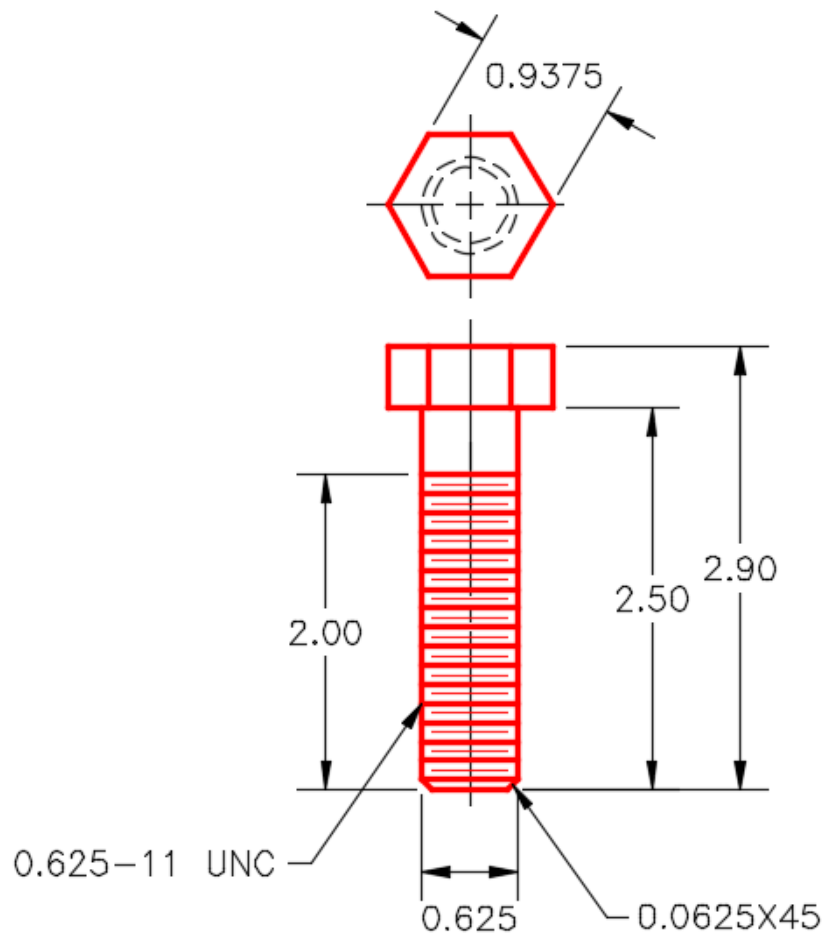
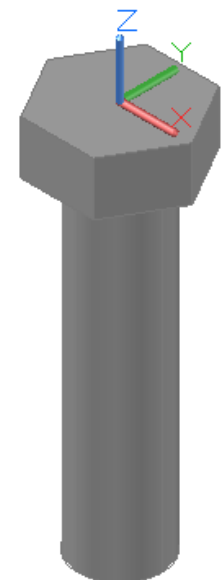

Figure Step 2A
Figure Step 3
Step 2 Save and name the drawing: AutoCAD 3D Workalong 23-3. (Figure Step 2A and 2B)
Step 3 Using what you learned in the last workalong and using Figure Step 2A as a reference, draw the solid model on layer: Solid 8 to match the figure. Ensure that you union the hexagon and cylinder to create one solid model. (Figure Step 3)